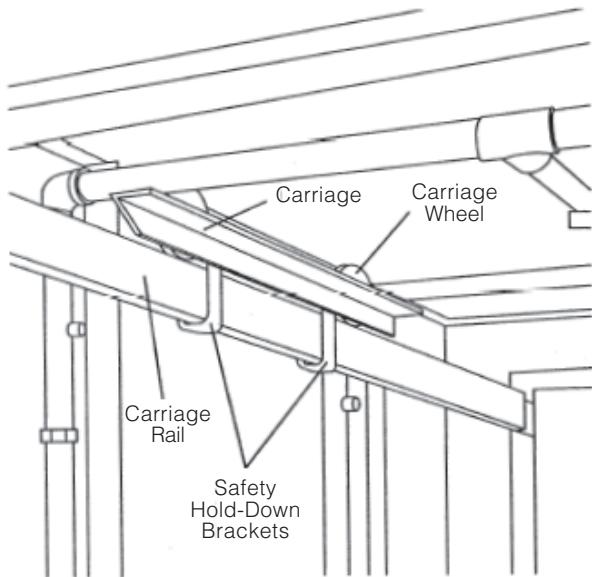

Figure 3-26. Attach Safety Hold-Down Brackets
8. Attach safety hold-down brackets (J-brackets) to the carriage, two on each-side. Position bracket between the carriage and carriage rail, just inside of the carriage wheel toward the center of the chamber (see Figure 3-26). Mount brackets directly onto the carriage at a 90° angle to the carriage rail.